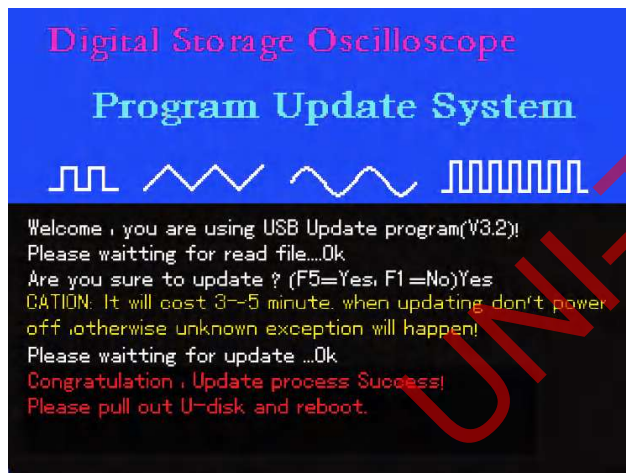

Figure 5-5
6. When upgrade progress reaches 100%, display will change to OK to indicate success of the current program upgrade task. A successful upgrade prompt as shown in Figure 5-5 will appear : “Congratulation, Update process Success! Please pull out U-disk and reboot.”